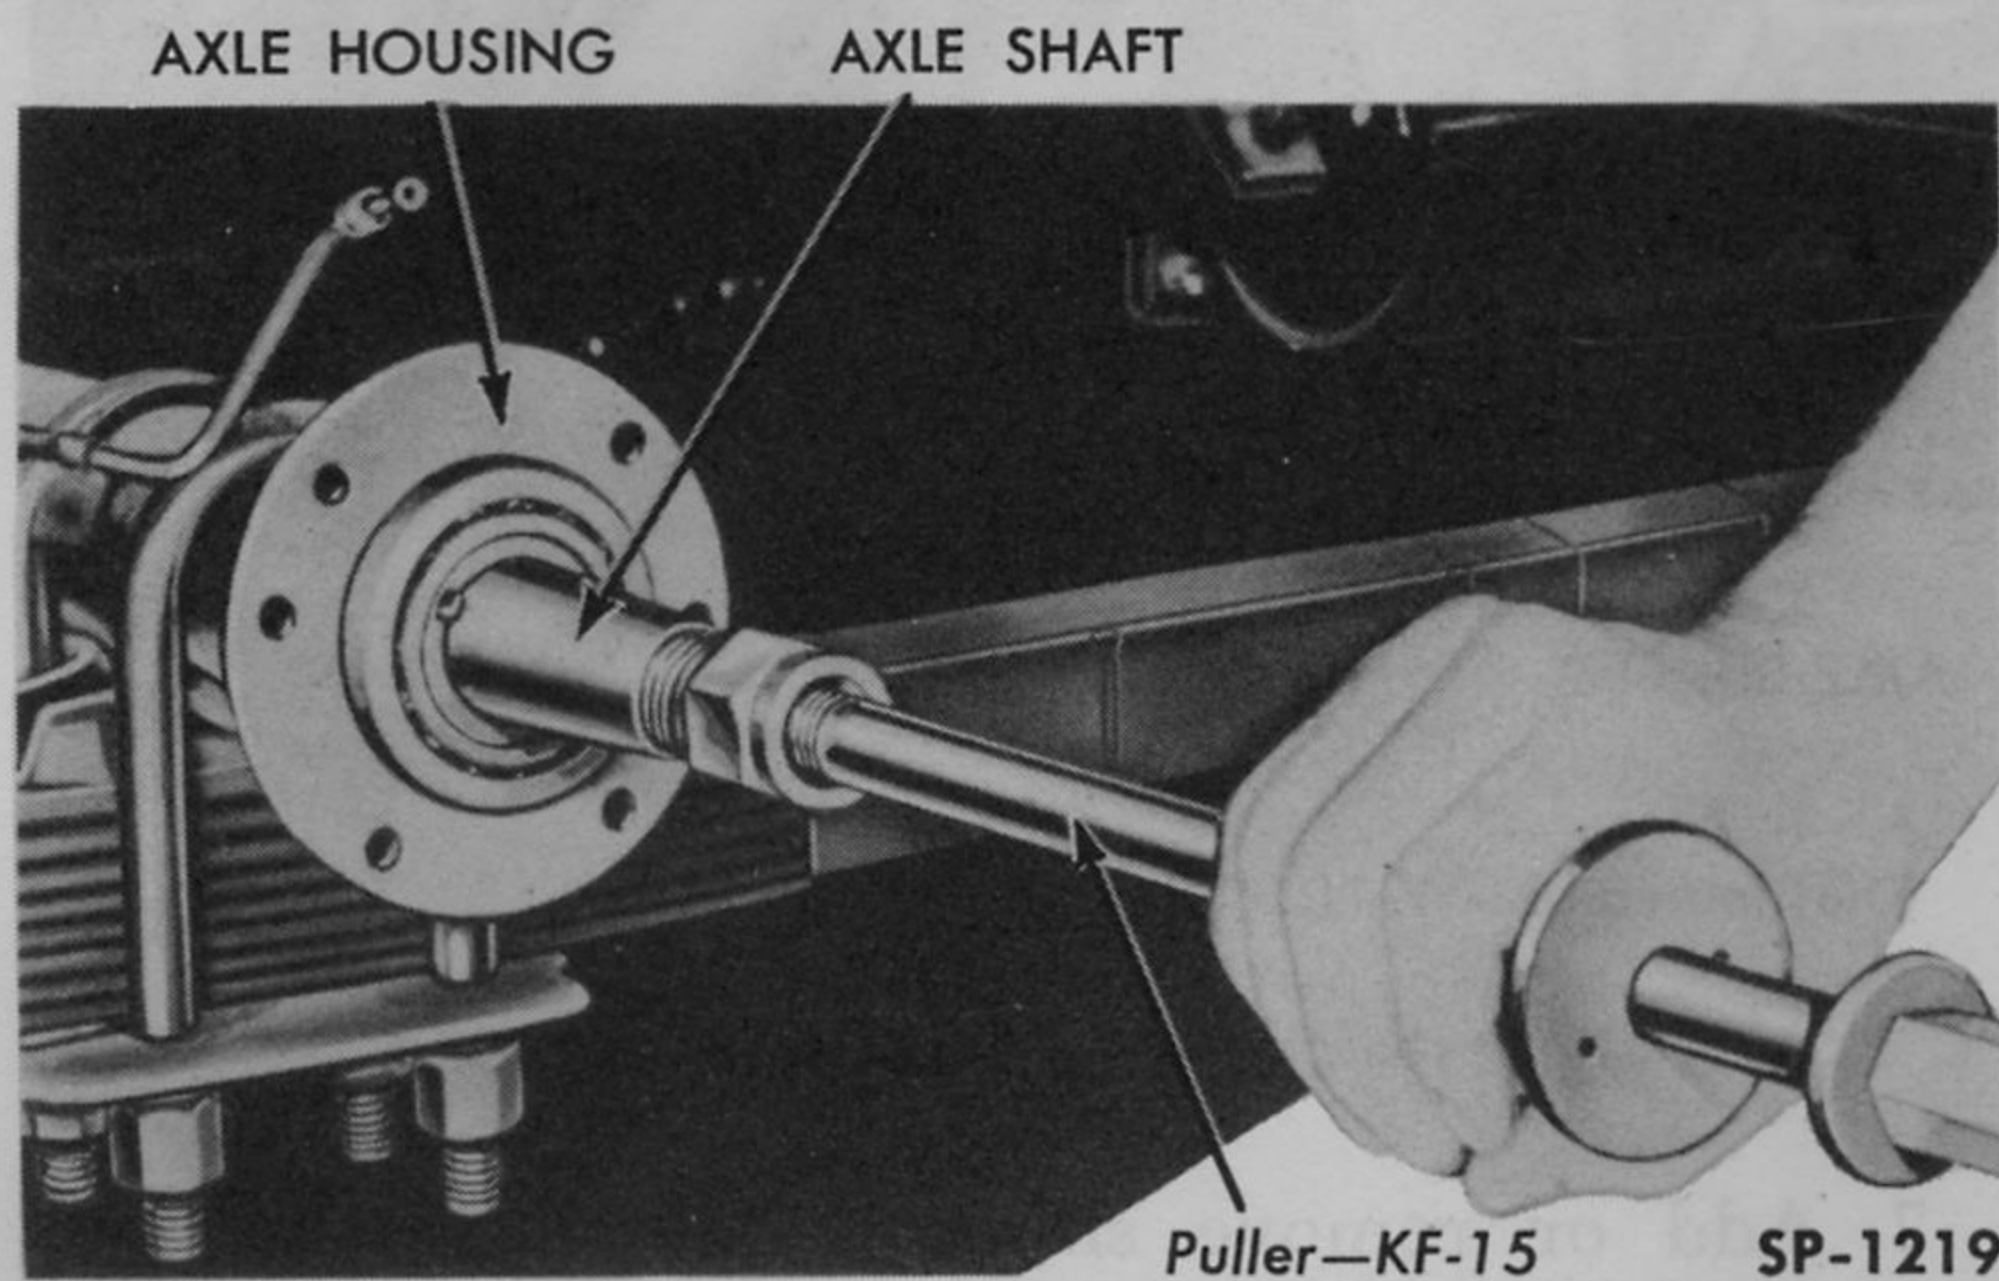

Fig. 255—Removing Rear Axle Shaft
8. Remove the rear axle shaft using Axle Shaft Puller KF-15 (Fig. 255). Care must be exercised as